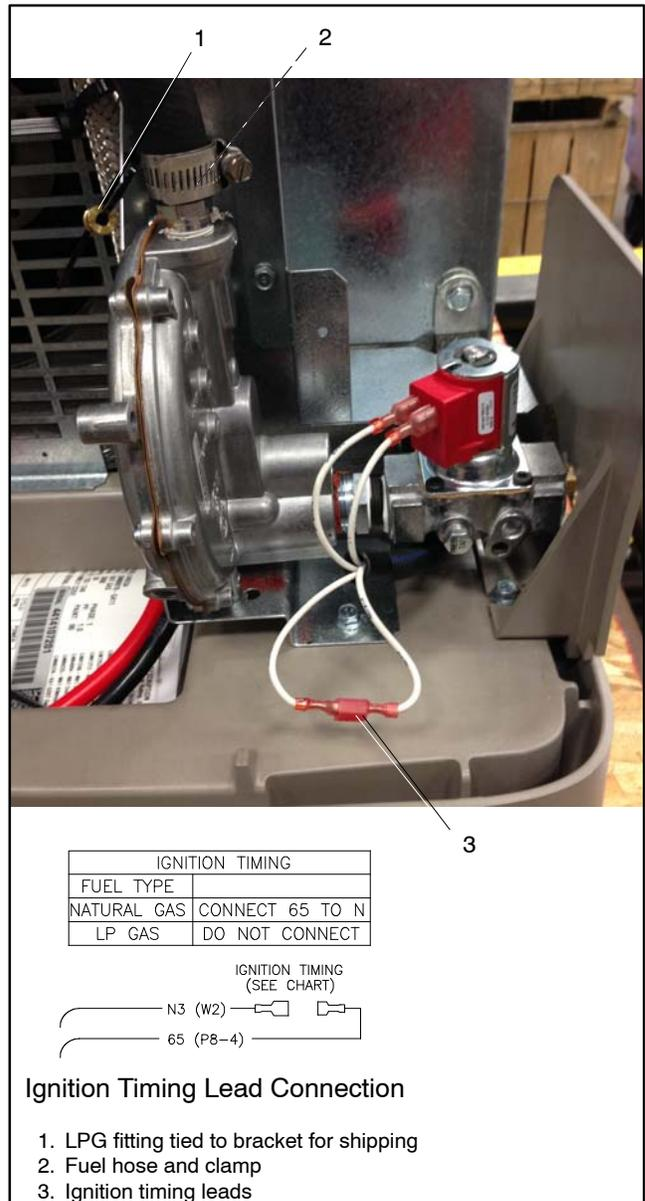

Figure 1-11 Fuel System, As Shipped (Model 14RESA/RESAL built after June 26, 2014)
Model 14RESA/RESAL generators built June 26, 2014, or later are not equipped with the fuel block. These units use fuel orifice fittings installed in the hose fitting at the fuel regulator. See Figure 1-11 and use the instructions in this section for fuel conversion.
The unit is typically shipped set up for natural gas, with the LPG fitting tied near the fuel solenoid valve. To convert to LPG, remove the NG fitting and install the LPG fitting as described below. See Figure 1-11 for the fuel system component locations.
5. Remove the hose clamp and fuel hose from the hose fitting. See Figure 1-11.
9. Disconnect ignition timing leads 65 and N3 for LPG. The ignition timing leads are located near the fuel solenoid valve. See Figure 1-11.